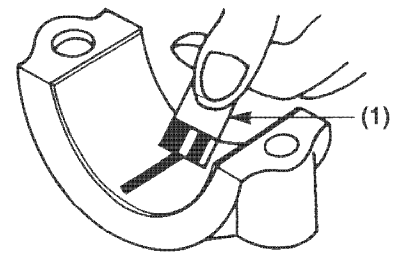

Figure 6-58
9. Compare the width of the flattened PLASTIGAGE (**Figure 6-58, (1)**) to the graduation marks on the package. The mark that most closely matches the width of the flattened PLASTIGAGE will indicate the bearing oil clearance. Record the measurement. See *Crankshaft* on page 6-8 for clearance specifications.